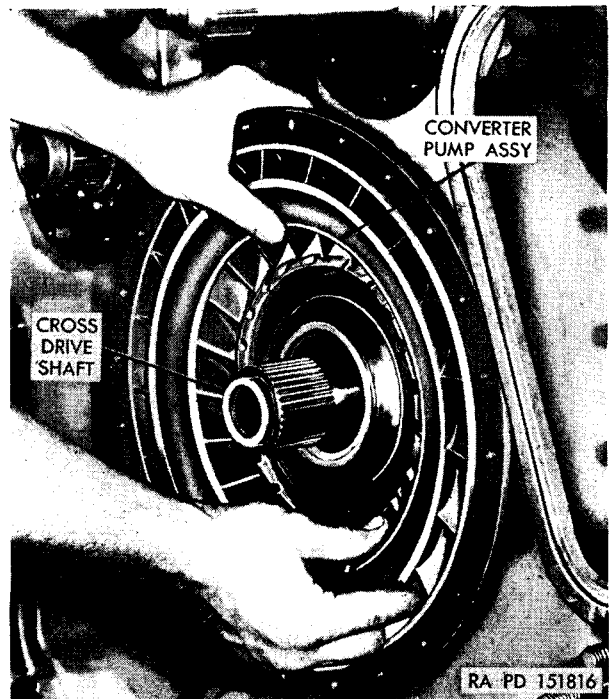
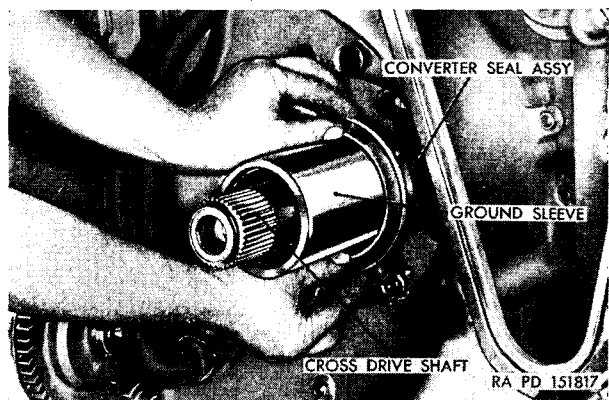

Figure 77. Removing converter pump assembly.
Figure 78. Removing or installing converter seal assembly.
- (8) Lift out the converter pump assembly (fig. 77). Remove the converter seal assembly from the ground sleeve (fig. 78).
- (9) Remove 10 bolts and washers, using a $\frac{5}{16}$ -inch socket, and remove one bolt, 11 nuts, and 12 washers, using a $\frac{5}{16}$ -inch socket, from the converter and oil reservoir wells in the left housing. Remove two bolts, using a $\frac{3}{4}$ -inch socket, from the converter ground sleeve.